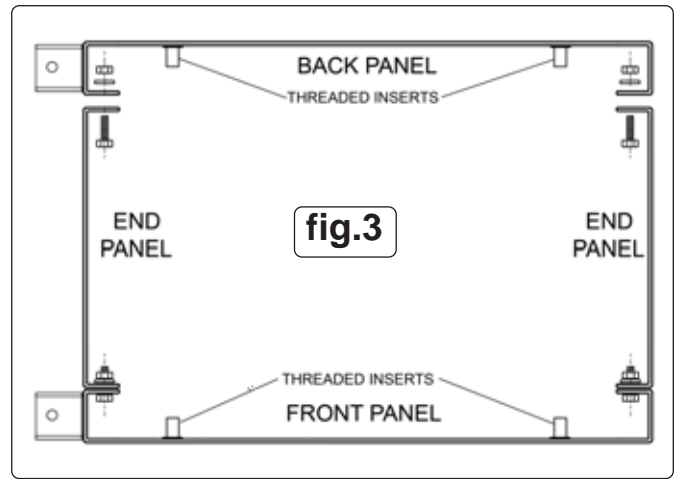

fig.3
- 4.3.2.1. Identify the front panel which has a small access plate bolted to it near the top edge. This front panel has a returned flange along either vertical edge. Bolt an end panel to each vertical flange using the Ø8mm bolts, nuts and washers supplied as shown below. Complete the structure by bolting the back panel into place as shown below in Fig.3.
- 4.3.2.2. Using a suitable crane, lower the machine bed onto the top of the assembled stand. The stand assembly has two large threaded inserts on either side (see Fig.3) and these should be aligned